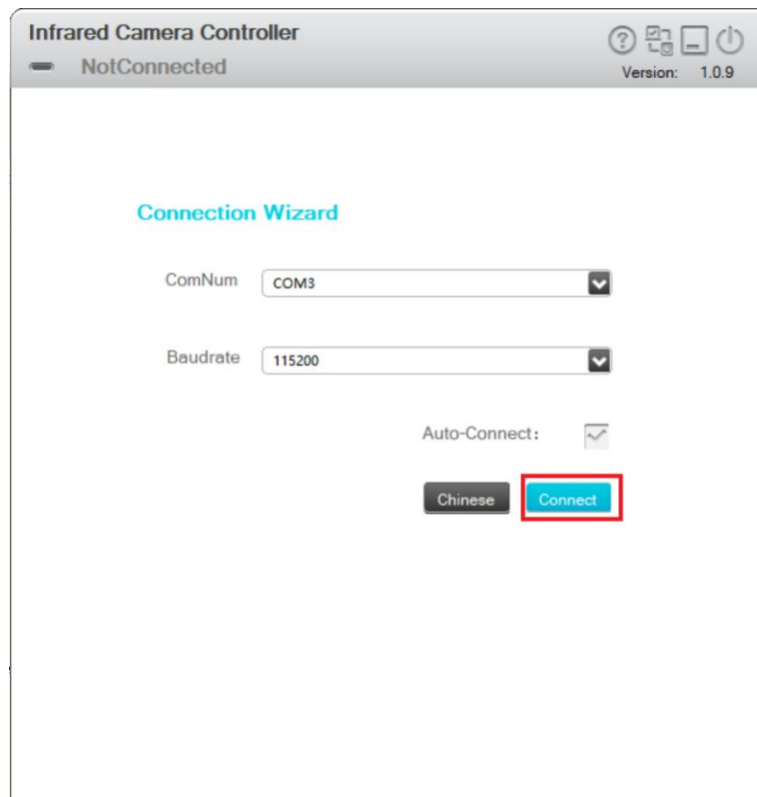

Figure 4-14 Connection wizard interface in English
5. Click "Chinese" to select the Chinese language version, or click "English" to select the English version, the connection wizard interface in English is shown in figure 4-14.